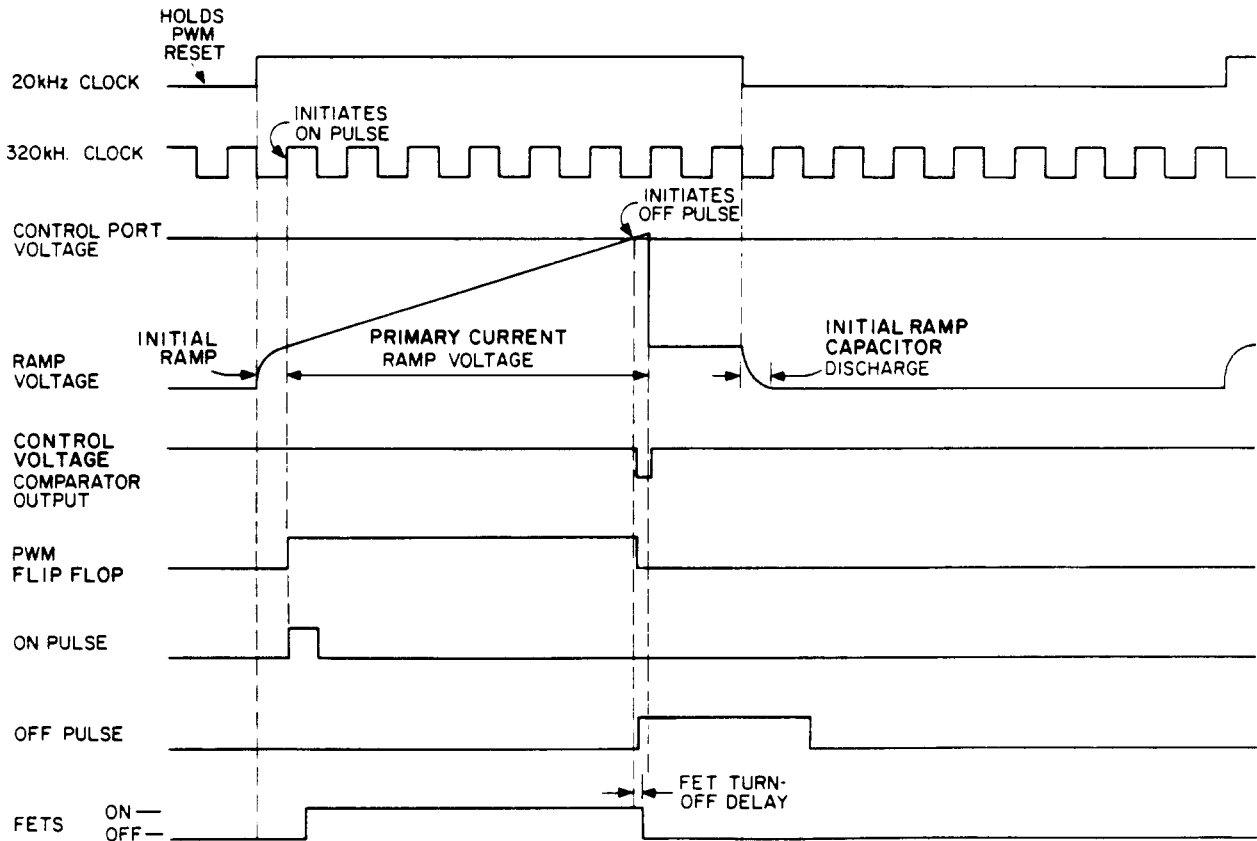

Figure 4-4. FET Control Signals Timing Diagram
Figure 4-4 shows the relationship of various signals associated with the FET on/off cycle.
As can be seen from the waveforms in Figure 4-4, there is a delay between the time when PRIMARY CURRENT RAMP voltage exceeds the CONTROL PORT voltage and the time when the FETs turn off. This delay consists of the comparator switching time, gate delays, transformer delay, and FET turn-off time, and it results in a certain amount of power being transferred to the output after the desired off time. If the CONTROL PORT voltage is at a very low level (unit supplying little or no output power), this power may exceed the amount required by the load. To eliminate the delay, the Control Voltage Comparator includes an initial ramp circuit that generates a small ramp voltage before the FETs are turned on. The added ramp voltage starts with the 20KHz clock pulse, and causes the combined-ramp voltage to exceed the CONTROL PORT voltage earlier, thereby effectively eliminating the FET turn-off delay.
**Pulse Width Modulator (PWM).** The PWM generates the ON and OFF pulses that control the power FETs in the power mesh. ON pulses are generated at a 20KHz rate, and, as can be seen in Figure 4-4, are initiated by the first 320KHz dock pulse after the start of the 20KHz clock pulse. When the FET switches turn on, current flows through the Primary Current Monitor transformer on the main board, and the Primary CURRENT RAMP voltage starts to rise. OFF pulses are normally initiated when CONTROL LIMIT becomes active (low), indicating that the ramp voltage has exceeded the CONTROL PORT voltage. However, an off pulse can be initiated by any one of a number of other signals.